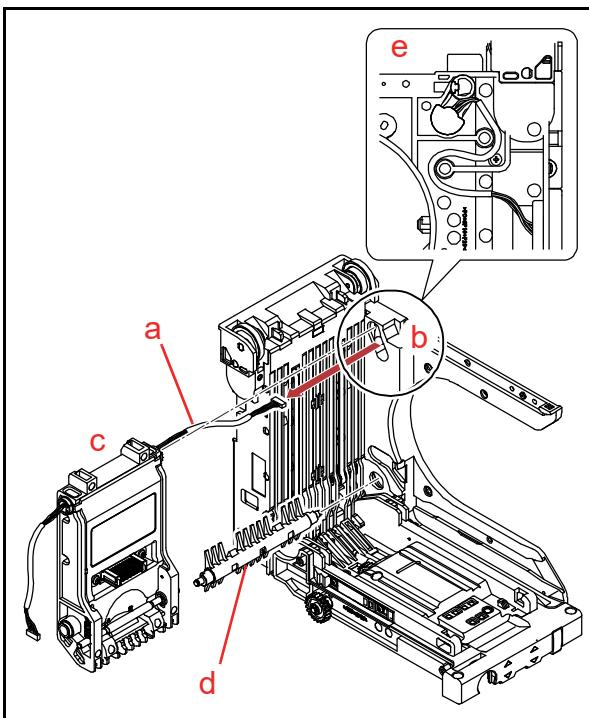

**Figure 4-24** Front Transport Unit Removal (RT Frame Unit) 3
3. Feed the Harness (Figure 4-24 a) out through the hole (Figure 4-24 b) to remove the Frame Assy. (Figure 4-24 c).